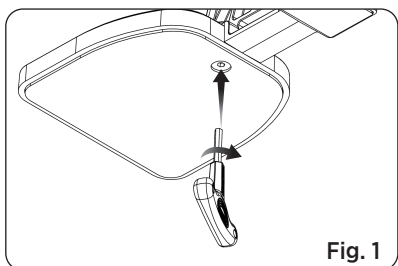

Fig. 1
1. Align the anti-drop mounting screws with the mounting hole and use the wrench to tighten securely the sharpening base to the main support rack (See Fig. 1).